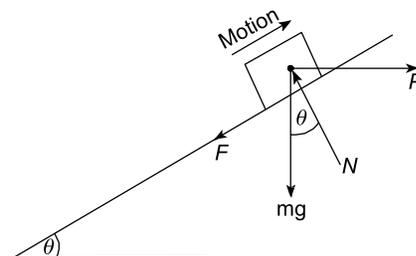

Figure 16.8
This motion, together with the primary forces, is shown in Figure 16.8.
Problem 9. If the mass of Problem 7 were subjected to a horizontal force P , as shown in Figure 16.8, determine the value of P that will just cause motion up the plane.
9. Determine P for Problem 5, if it were acting in the direction shown in Figure 16.8. [$P = 438.6 \text{ N}$]